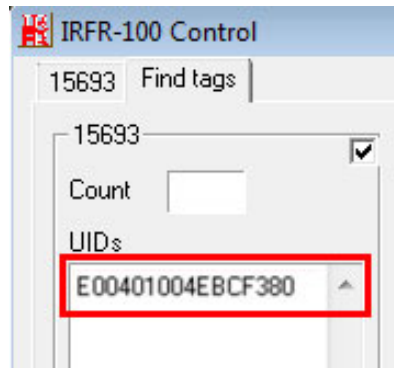

Figure 3-23: IRFR – UIDs
Step 6: Place an RFID card near the RFID reader on the bottom right corner of the front panel (**Figure 1-2**) then remove it. The card number will be shown in the UIDs column (**Figure 3-23**).